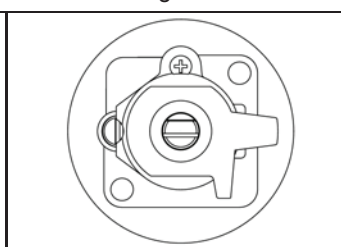

Fig.15
- With a slotted screwdriver turn the choking screw (see figure 15) and, while observing the flame at the same time through the cooker porthole, evaluate the consistency of the flame so it remains on when switching quickly from the MINIMUM to the MAXIMUM position.